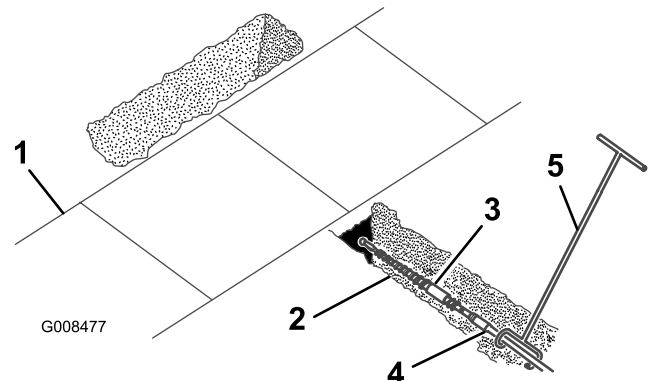

Figure 29
4. Connect the rod guide tool to the rod just behind the boring bit (Figure 29).
5. With the person guiding the boring bit positioned to the right of the trench (Figure 29), start the engine, position the throttle to within the middle of the RPM range, and push the hydra-borer-control lever forward to start the forward rotation of the boring bit.
6. Slowly move the machine forward, while the person with the rod guide tool guides the boring bit into the soil (Figure 29).